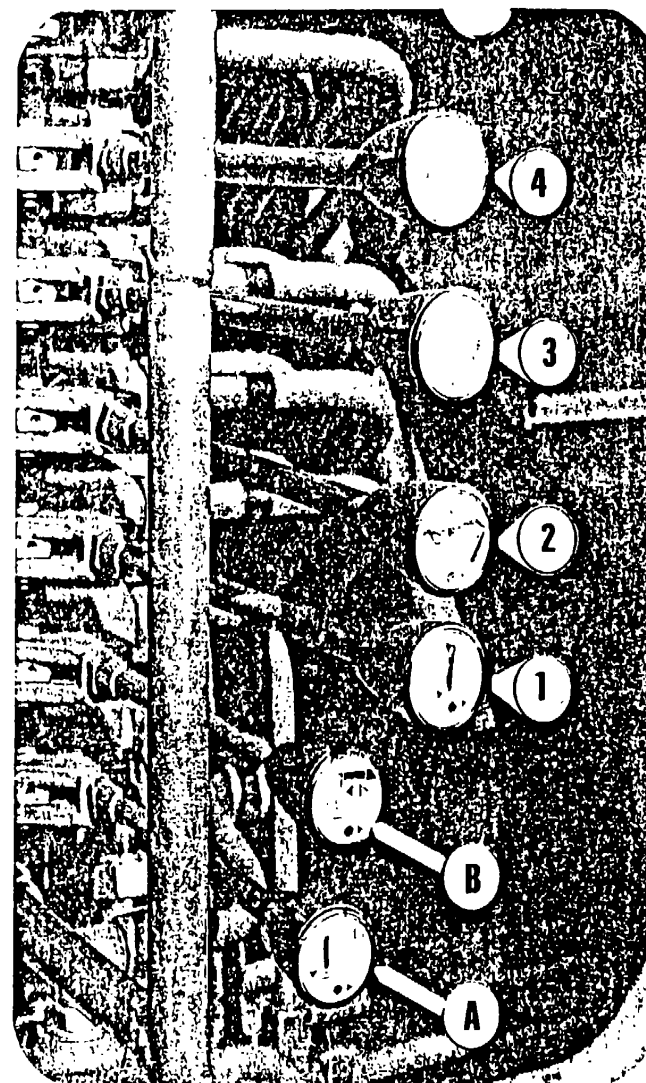

Fig. 1
- 7 Operate lever No 2 (fig. 1) until the main boom is in the horizontal position
- 8 Operate lever 1 (fig. 1) to slew the crane and bring the hook over the load to be lifted and lever 3 and 4 (fig. 1) to increase the hydraulic extension
- 15 Leaving inner boom in horizontal position, fold outer boom until outer ram has reached the stroke and lever 3 (fig. 1)
- 17 Operating lever 2 (fig. 1) fold inner boom controlling that inner and outer booms lean on the stops welded on the base